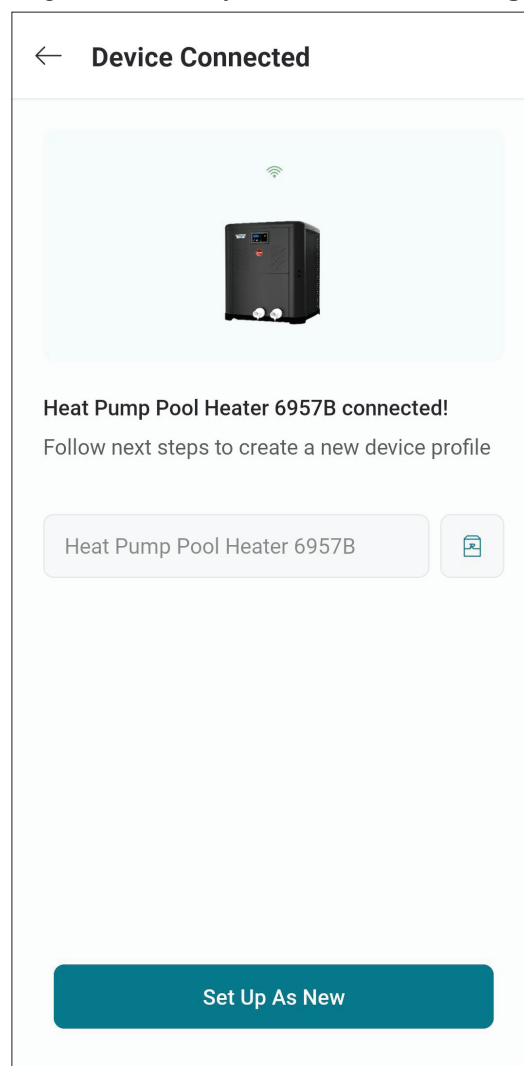

Figure 88. Name Your Unit
1. Your device is now connected to Wi-Fi. You can change the name of your device here. See **Figure 88**.